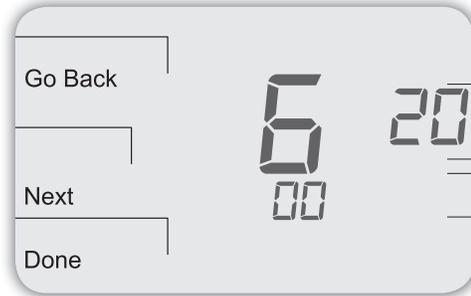

Figure 13.
1. On the thermostat, press the lower left and lower right keys simultaneously for about five seconds. **Note:** **Next**, **Go Back**, and **Done** appear (see Fig. 13).